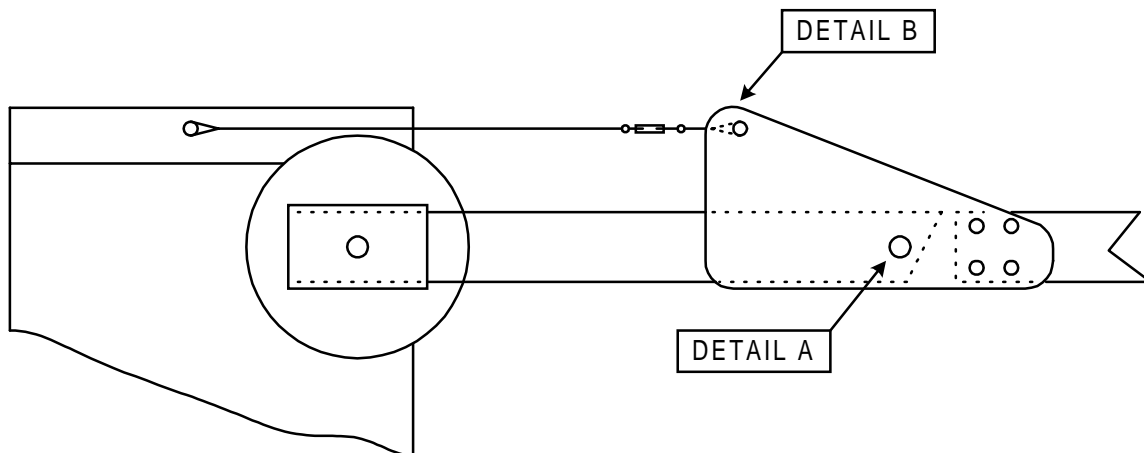

Figure 2
2. Insert the remaining end of the cable that was attached to the 1601 operator through the remaining eyebolt on the turnbuckle and secure it with the cable clamp supplied (Figure 2).